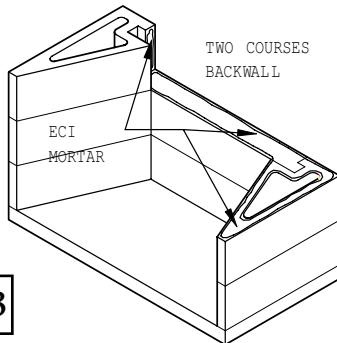

FIGURE 13
After outlining the dry set pieces, remove them and apply Earthcore Mortar to the areas traced on the base plate where the side walls and back wall are to sit. By doing this, the first layer of Wall components can be set directly into mortar already applied to the proper areas on the base plate. (Figure 12) Be sure to put Earthcore Mortar on the contact surfaces of the vertical joints where the side wall and back wall components connect. (Figure 13)
Step 3: Continue assembly of the second, third and fourth courses of the firebox side wall and back wall. Apply mortar to the top of each layer of wall components, set the next course above into place. Be sure to mortar all vertical joints of the side wall to back wall connection when setting each component to its mate. (Figure 13)